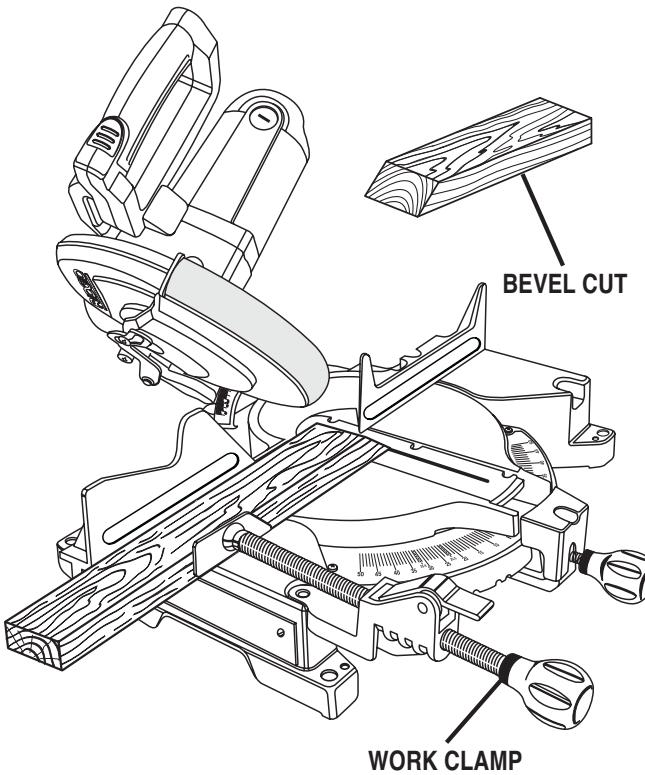

Fig. 24
- Grasp the stock firmly with one hand and secure it against the fence. Use the optional work clamp or a C-clamp to secure the workpiece when possible. See *Figure 24*.